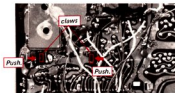

Fig. 2-16.
- ⑫ Remove main circuit board by releasing two main chassis claws shown in Fig. 2-16 below.